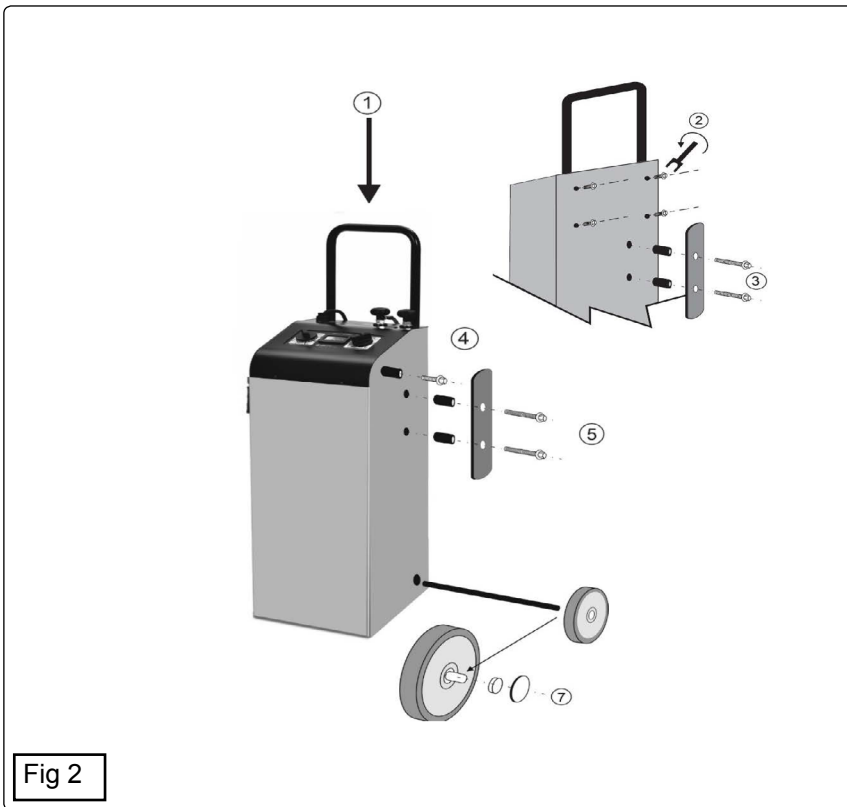

Fig 2
- 4.1. Assemble the handle to the main casing using the fittings provided as indicated in fig.2.
- 4.2. Slide the axle through the casing at the bottom back corner. Attach the wheels using the fittings provided as indicated in fig.2.